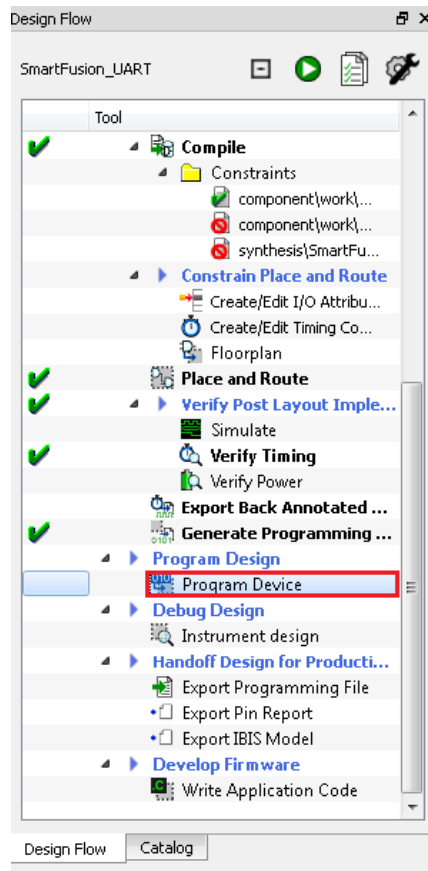

Figure 16 · Design Flow Window
1. Double-click **Program Device** under **Program Design** in the **Design Flow** window to program the SmartFusion cSoC device as shown in Figure 16 · on page 16.